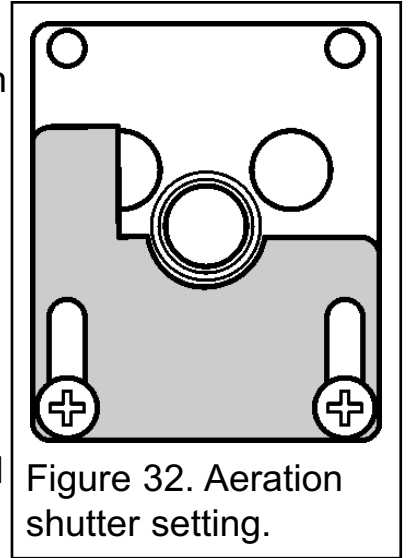

Figure 32. Aeration shutter setting.
1. The aeration shutter is factory set. It is important to ensure that the aeration setting is correct (See figure 32).
2. If the setting is not as shown in figure 32 adjust the aeration shutter. To do this loosen the two aeration shutter screws, slide the aeration shutter to the desired position and tighten the screws.